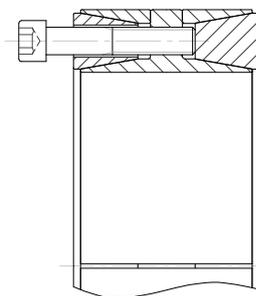

Fig. 3
4. Transfer locking screws used for dismounting of clamp collar item [2] into all push-off threads in center collar item [1] (see fig. 3). Release clamp collar item [3] by repeating procedure outlined in step 3.